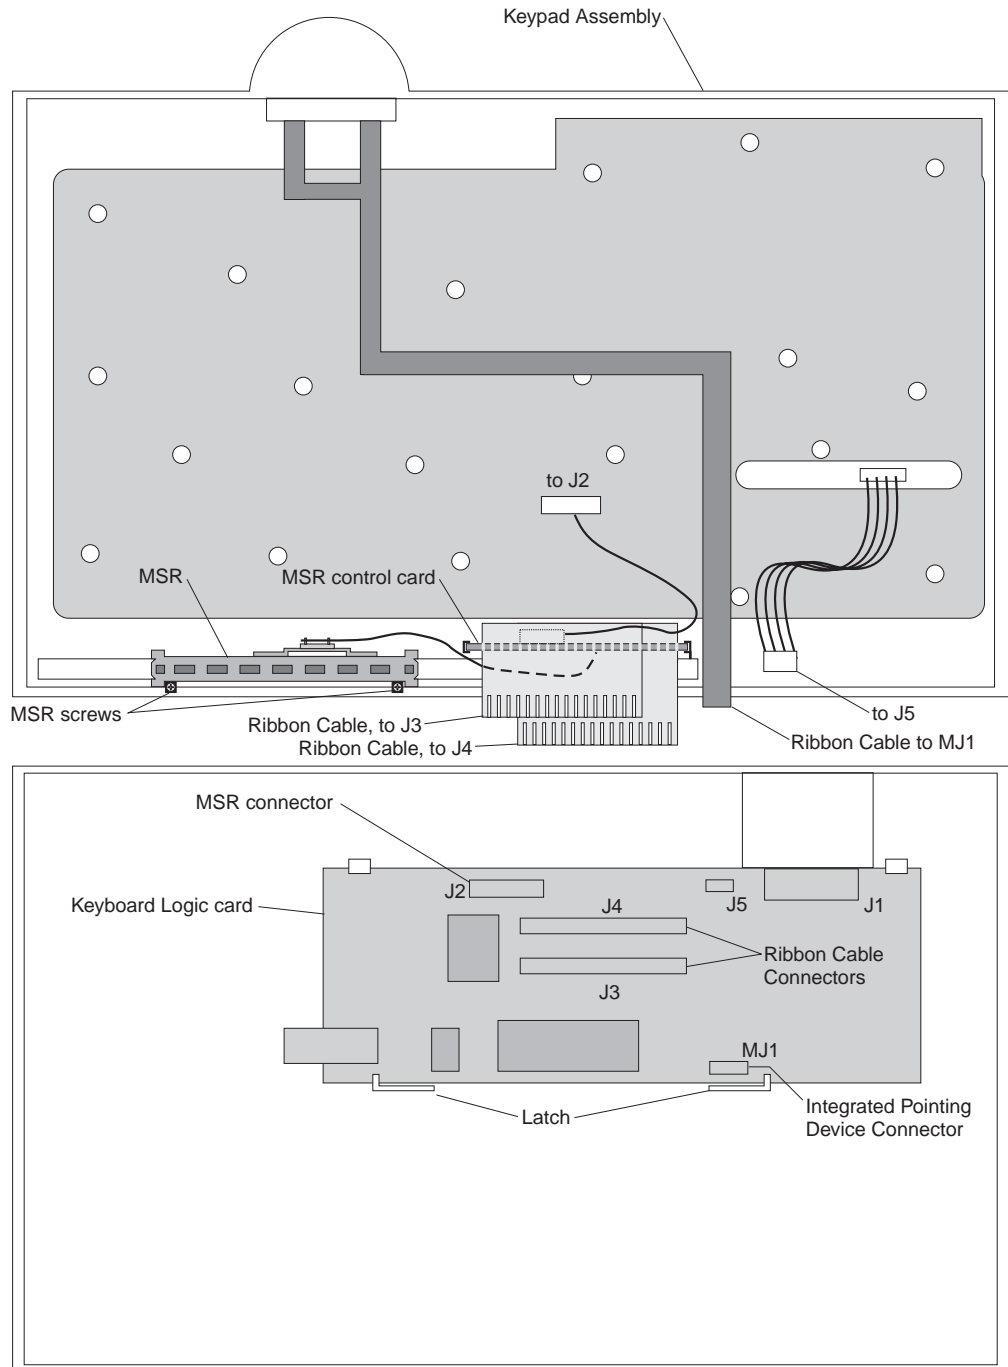

Figure 44. CANPOS keypad assembly with MSR
2. Remove the two screws holding the MSR to the keypad assembly as shown in Figure 44 on page 47. Lift the MSR up and off of the two plastic guides on the keypad assembly.
3. Align the MSR's two screw-holes tabs with the screw holes on the keypad assembly, and slide the MSR into the two plastic guides. Install and tighten the two screws, as shown in Figure 44 on page 47.